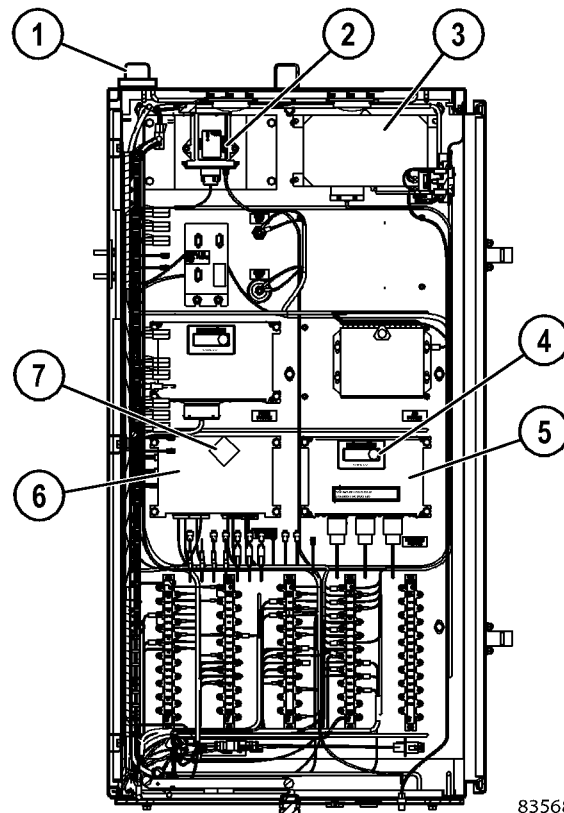
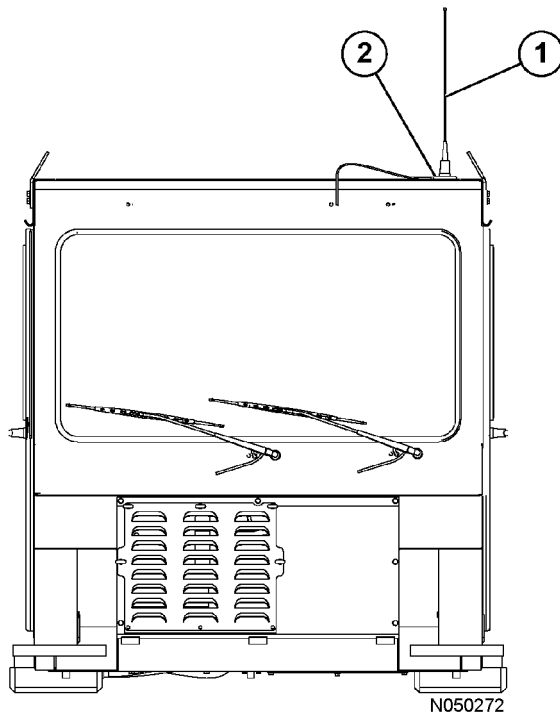

FIGURE 32-12. KOMTRAX PLUS COMPONENT LOCATION
FIGURE 32-13. ORBCOMM ANTENNA
This system uses KOMTRAX Plus controller (formerly known as VHMS) (6, Figure 32-12) to gather data about the operation of the truck from sensors and other controllers installed on the truck. The data stored in KOMTRAX Plus is collected by a laptop personal computer (PC) or transmitted directly by communications satellite (utilizing the ORBCOMM controller). This data is then compiled at the Komatsu computer server. Based on this information, the servicing Komatsu distributor will suggest improvements and provide information aimed at reducing machine repair costs and downtime.
The KOMTRAX Plus system is turned on by the truck key switch. Immediately after receiving 24V power from the key switch, the KOMTRAX Plus controller begins the power-up initialization sequence. This sequence takes about three seconds, during which time red LED digits (7, Figure 32-12) display a circular sequence of flashing LED segments.
ORBCOMM controller (3, Figure 32-12) transmits data through antenna (1, Figure 32-13) mounted on top of the cab. The antenna coaxial cable is routed through the inside of the cab to protect it from damage. If the antenna or coaxial cable is damaged, replace the parts.
Interface module (5, Figure 32-12) receives data from the sensors installed on the truck and sends this information to the KOMTRAX Plus controller. There is a small green LED light on the face of the controller. With the key switch ON, the light must be blinking. If the light is continuously illuminated, there is a problem in the controller.
The Komatsu wireless bridge (2, Figure 32-12) allows for the transfer of information from the KOMTRAX Plus controller to a laptop computer with wireless network capabilities. The information that is downloaded through the KWB (Komatsu wireless bridge) is the same information that is gathered during a manual download from the KOMTRAX Plus system. Downloads can be performed with the laptop computer located on or near a stationary truck, or the computer can be located close to a path of moving trucks. Total download time is approximately 10 seconds. If only a portion of the data is downloaded while the truck is passing by a laptop computer, the remaining information will be downloaded the next time a data download occurs.